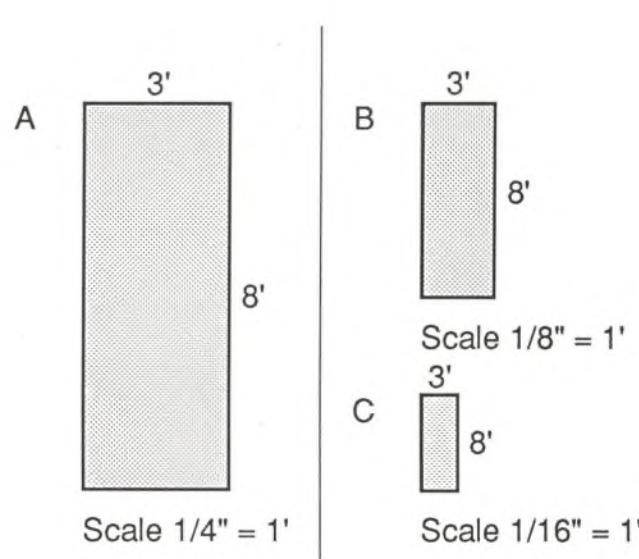

Fig. 3.5 Compare three rectangles with the same measurements drawn to different scales.
1. Compare the rectangles in Fig. 3.5. The measurements of all three rectangles are the same; however each is drawn to a different scale. The sides of the $1/4"$ scale rectangle (A) are exactly twice as long as the sides of the $1/8"$ rectangle (B); similarly the sides of (B) are twice as long as the sides of (C).